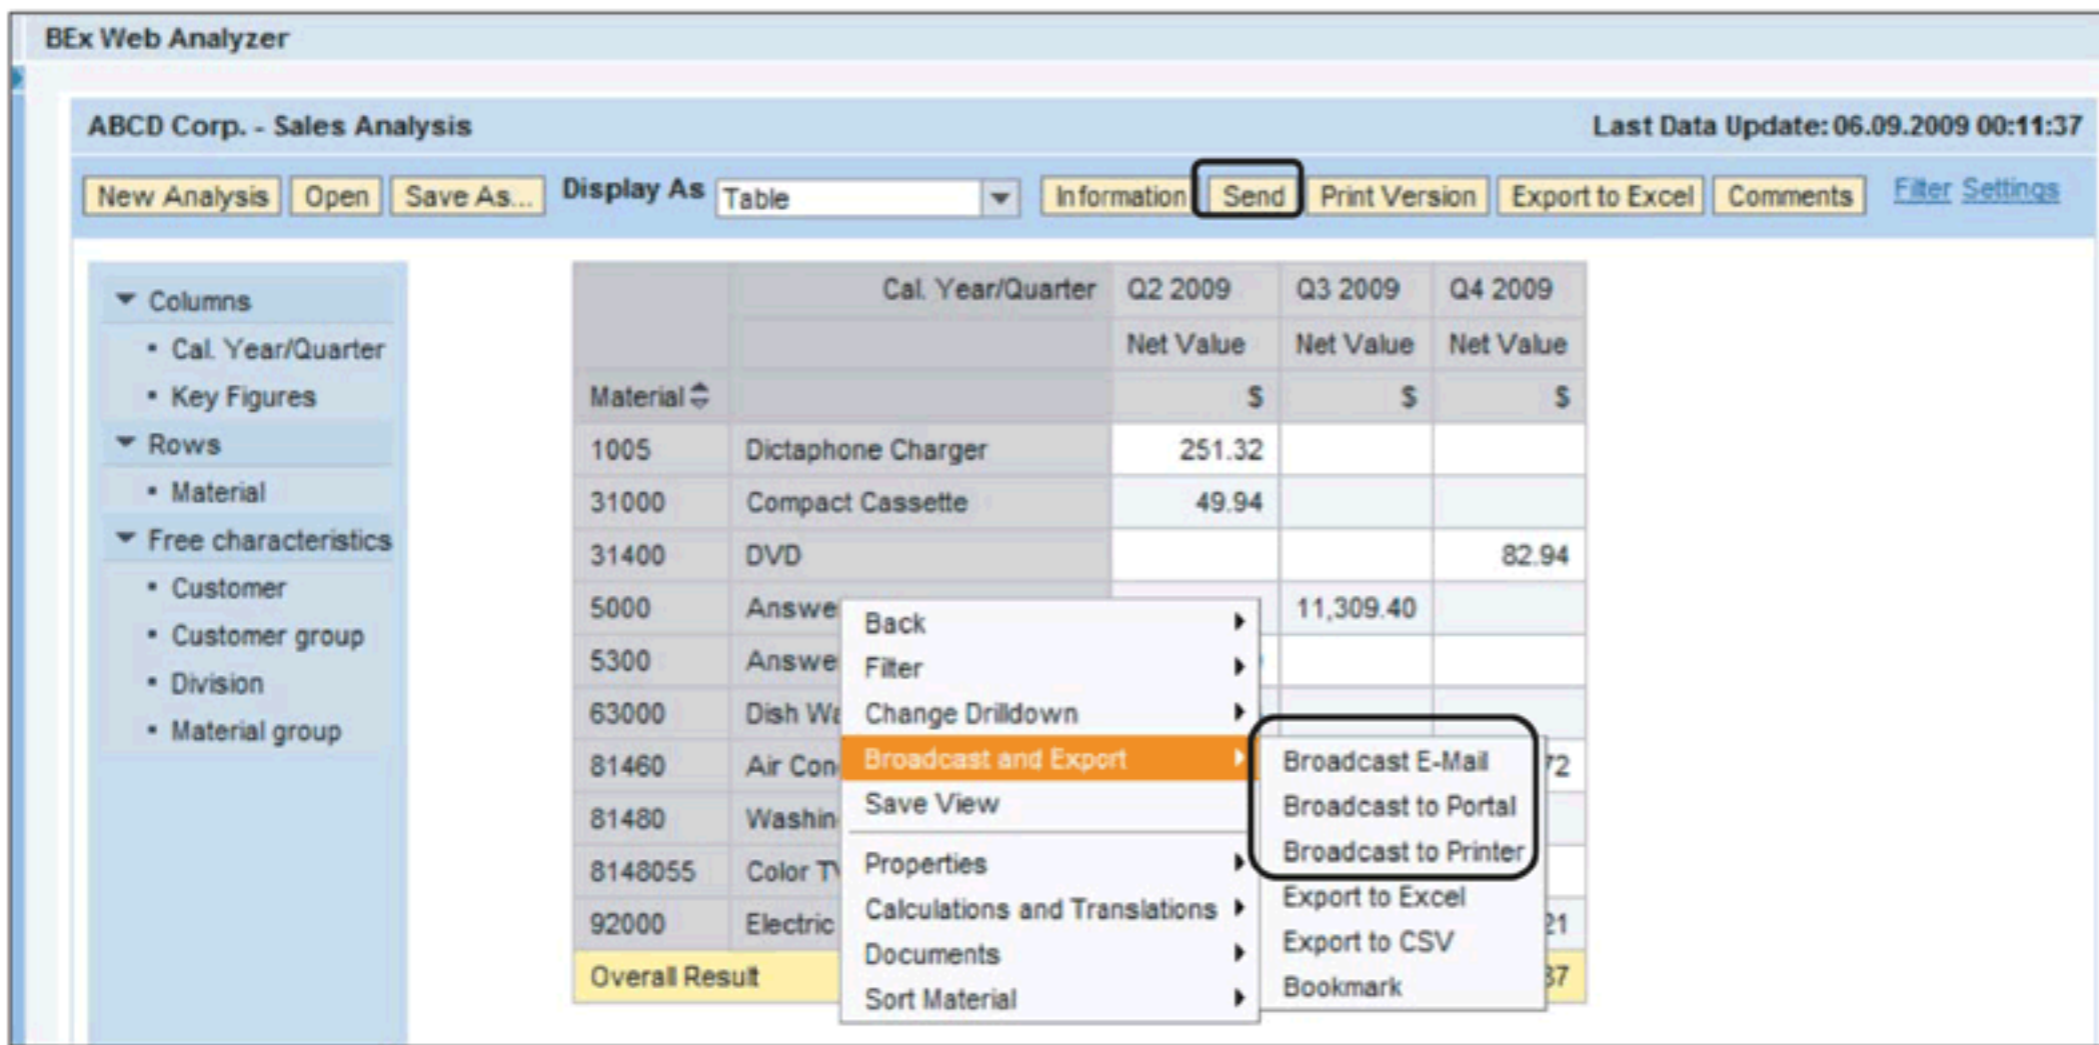

Figure 10.61 Calling BEx Broadcasting Wizard
The analysis done on BEx Web Analyzer can be broadcasted using the SEND button (❶ of Figure 10.61). Click on the button, and it opens a pop-up window from the BROADCASTING WIZARD.
The wizard can also be called from the BROADCAST AND EXPORT context menu function, as shown in ❷ of Figure 10.61.